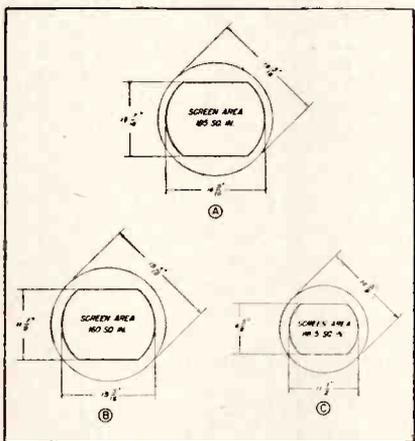

Fig. 1A—Diameter and screen area of Du Mont color crt. B,C—Comparable dimensions for earlier 19-in. and 15-in. three-gun types.
To illustrate: consider Fig. 1A, which shows a diamond-shaped pattern. We are assuming, for simplicity's sake, that such an image is being picked up by a roof antenna in a
The diamond on the left in 1A is the direct signal, since it arrives first (closest to the left side of the screen); the reflection is to the right since it arrives a short time later. Remember that negative transmission is used in this country; as a result, the strongest signal is the blackest, regardless of whether it is the direct or the reflected one. This tells us then that in Fig. 1B the reflected signal is the stronger one—just the reverse of the situation in Fig. 1A.
Fig. 1A—Strong direct signal, weaker reflected one. B—Strong reflected signal, weaker direct one. C—One weak and one strong direct signal, one weak reflected one. If lead-in within set is short, D-1 may blend with D-2, causing lines of image to thicken.
• Proper use of the scope around the shop can save much time otherwise spent on "hit or miss" methods. Many minutes can be saved, for instance, in adjusting to approximate frequency tuned circuits which are going to be added to a TV or radio set to trap out unwanted signals. Some examples of what can be done along these lines are illustrated in Fig. 1A through 1F.
Fig. 1A shows the set-up needed for this purpose, using only an AM signal generator and a scope. The response of the scope is relatively unimportant, since it is only the indication of minimum response that is required. Few technicians are probably aware that ordinary 455 kc i-f transformers will cover most of the standard broadcast band, and can therefore be used as single or double-tuned traps either to attenuate or eliminate an excessively strong broadcast station signal that is interfering with reception in a TV set, or in a broadcast radio receiver (say, one operating in the shadow of an AM transmitter that is blanketing adjacent channels with its excessively strong signal).
Whether the trap to be used is a home-made or commercial one, connect it as shown in Fig. 1A, using a 25 mmfd capacitor in series with it in order to 1) approximate the circuit capacitance that will be present when the trap is connected into the set, and 2) isolate the low impedance of the signal generator output from the resonant trap circuit. The scope gain is set near maximum, and sufficient generator output is used to provide near full screen deflection amplitude.
If one winding is shorted by twisting the leads together, and the other is connected as in Fig. 1A, the tuning range will be from approx. 375 to 1250 kc. If two traps are connected in series, as shown in Fig. 1E, the frequency range will be from about 375 to 1100 kc for *each* trap. Since there is less than critical coupling between the two coils, each trap can be tuned independently to a different frequency without appreciably detuning the other. (The polarity of the windings is of little consequence when the units are used in this manner.) One trap, for instance, can be tuned to the intermediate frequency, and connected in series with the antenna input, to eliminate interference from a sta-
Fig. 1A—Equipment setup for pre-setting trap. B—Color-coded 2nd i-f transformer. C, D—Parallel connection of i-f windings. E—Primary and secondary connected in series. F—Inserting double-tuned traps at input to TV set. Xformer leads can generally be used to connect to TV set.